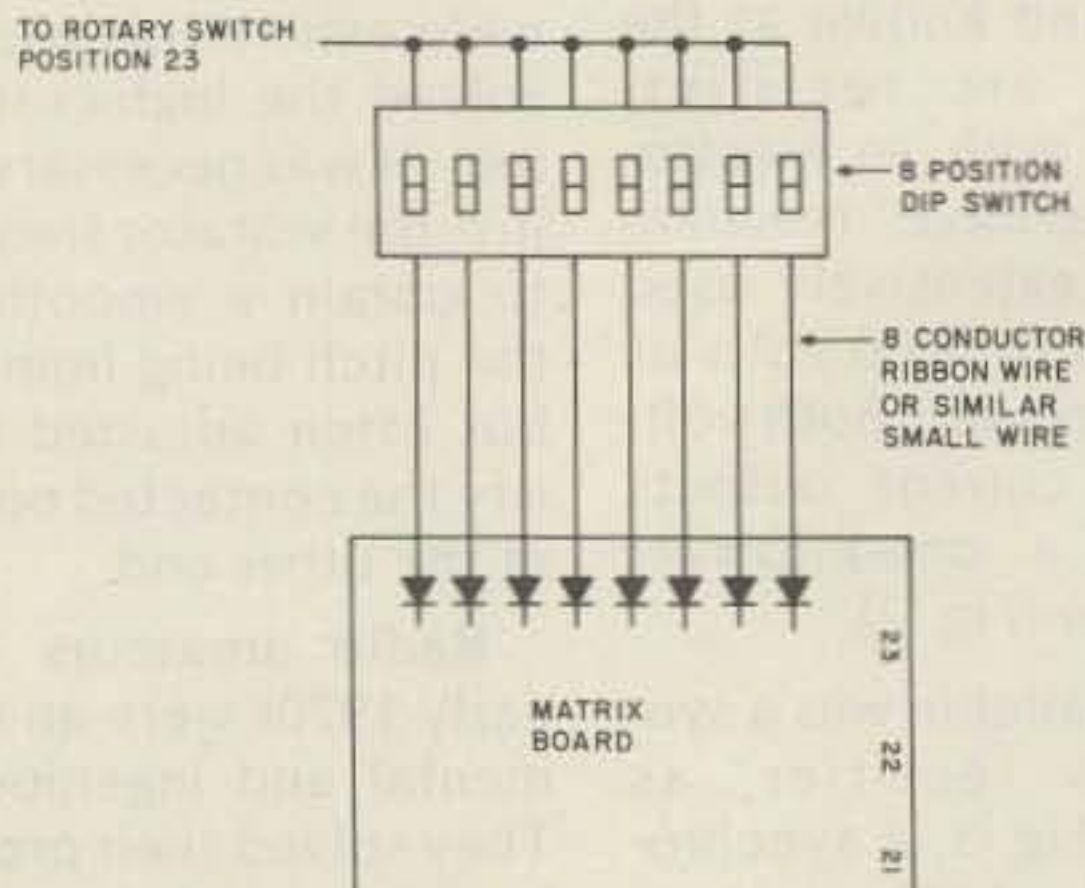

Fig. 2.
All one needs to do is simply (1) remove the 24-pin accessory plug from its holder, cover it with tape to prevent shorts, and push it inside the case, and (2) glue a section of perfboard on the accessory plug support bracket, mount your DIP switch on the perfboard, and wire as shown in Fig. 2. At this point, your 22-channel radio can be programmed for any of the frequencies